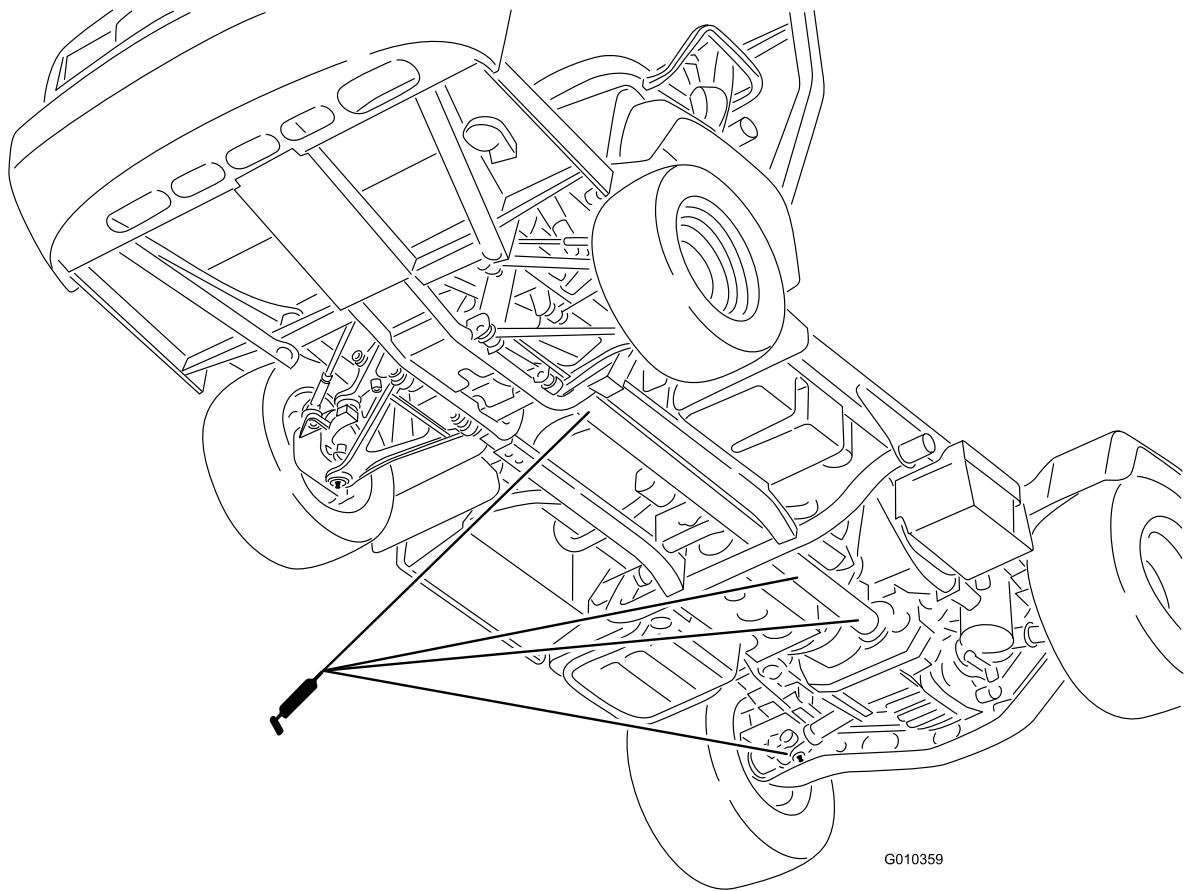

Figure 34
- U-joint (18) and 4 wheel drive shaft (3) (Figure 34)